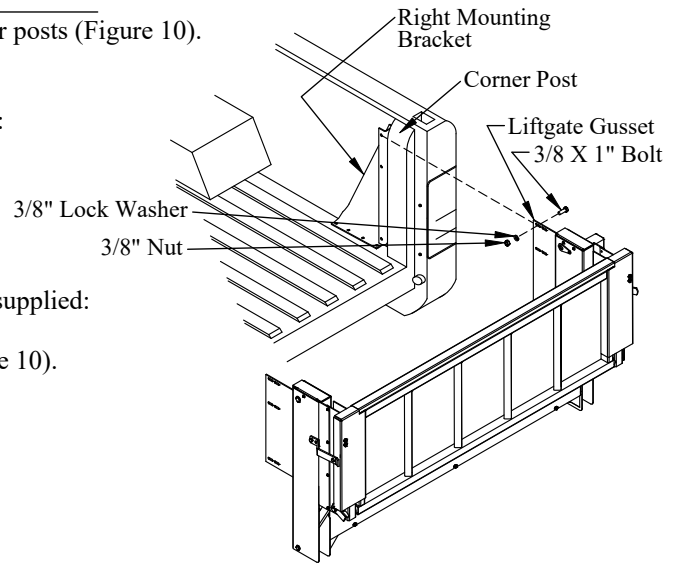

Figure 10: Mounting bracket and liftgate.
1. **Position** the mounting brackets into the truck bed in front of the corner posts (Figure 10).
- (3) 3/8"x1" hex head bolts on the bracket-side (Figure 10).
- (3) 3/8" lock washers, and (3) 3/8" nuts on the gusset-side (Figure 10).
7. **Drill** two (2) 3/8" holes into the truck bed floor using two holes in the bracket as a guide.